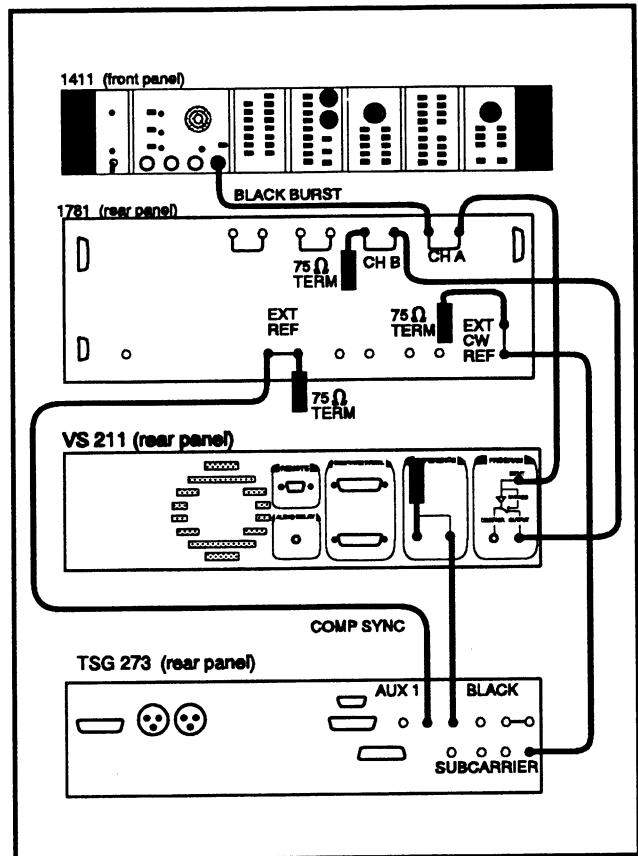

Fig. 4-3. Equipment setup to check the phase error with PROGRAM burst frequency change and PROGRAM burst amplitude change.
- a. Connect the test equipment as shown in Fig. 4-3.